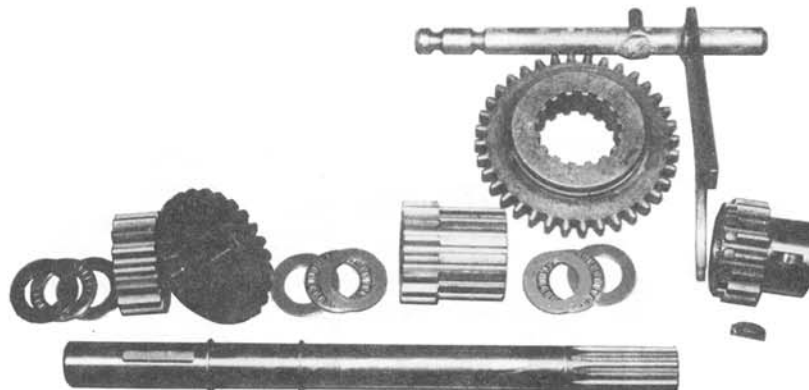

FIGURE 32
2. Replace any part worn or damaged. If a bearing or thrust race is damaged, replace the bearing and both thrust races. See Figures 32, 33, 34, 35, 36, 37 and 38.